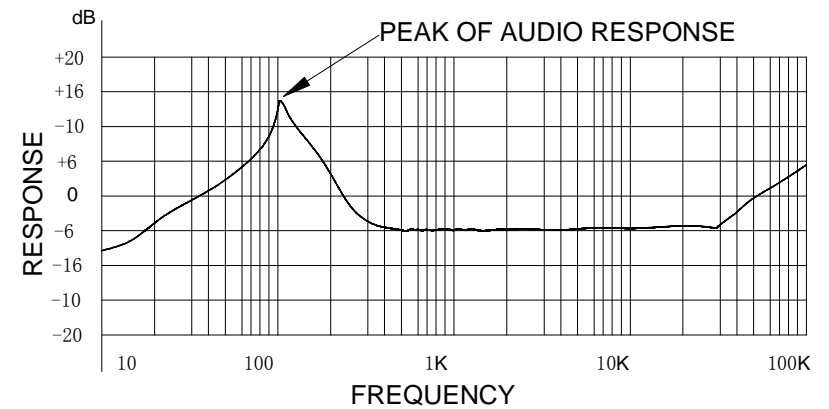

Figure 4-6
- When testing speaker, if there is a peak volt value, when in low freq., this must be the resonant freq. of this speaker, see figure 4-6.